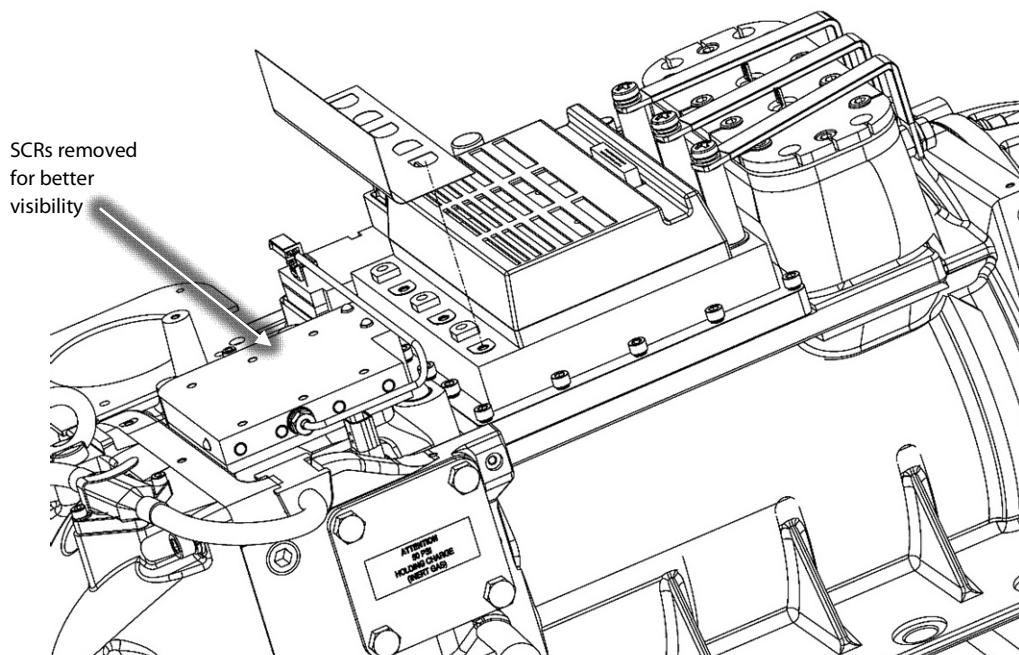

Figure 14 – Capacitor Mylar Removal
24. Remove the insulating Mylar from the Inverter. Refer to Figure 14 (Capacitor Mylar Removal).